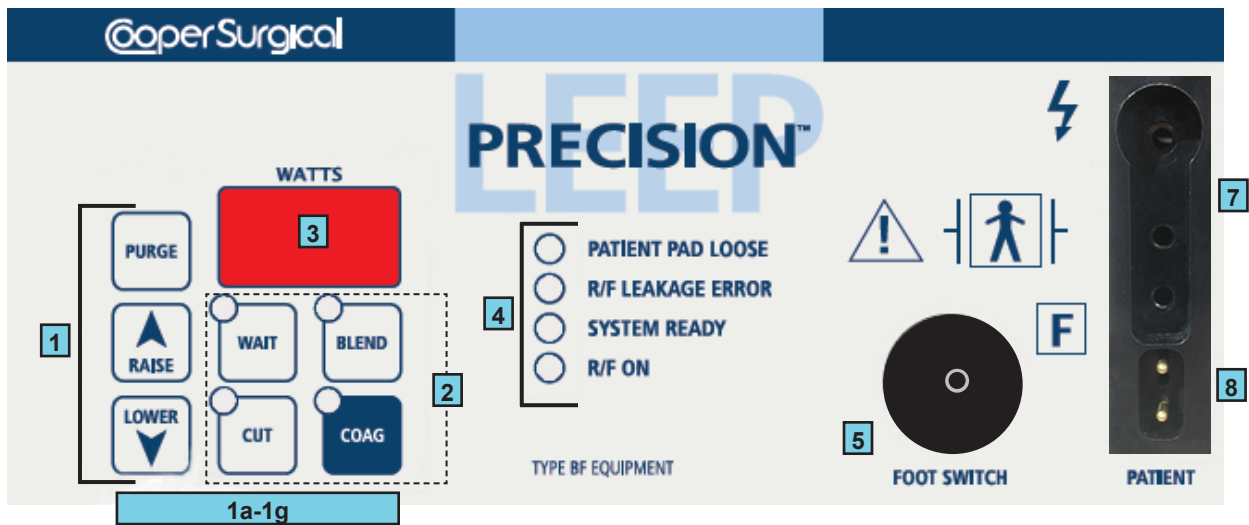

Figure 6 (Front Panel)
**NOTE:** Numbers in **blue boxes** refer to those component parts in Figure 6.